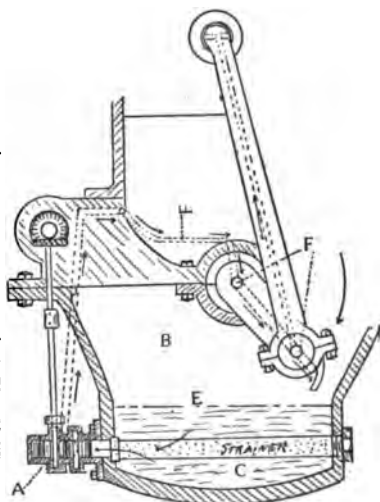

Fig. 16
These are very simple, and consist of a small gear-pump located in or near the crank-case and operated by positive gears (Fig. 16). The crank-case B also serves as a reservoir for the oil, and is provided with a secondary chamber (C) to which the pump is connected. In operation the pump draws up the oil from the reservoir C and forces it through oil-pipes and ducts to every bearing and moving part on the motor. After passing through the motor the oil drips back to the crank-case, and hence passes through strainers to the pump again.